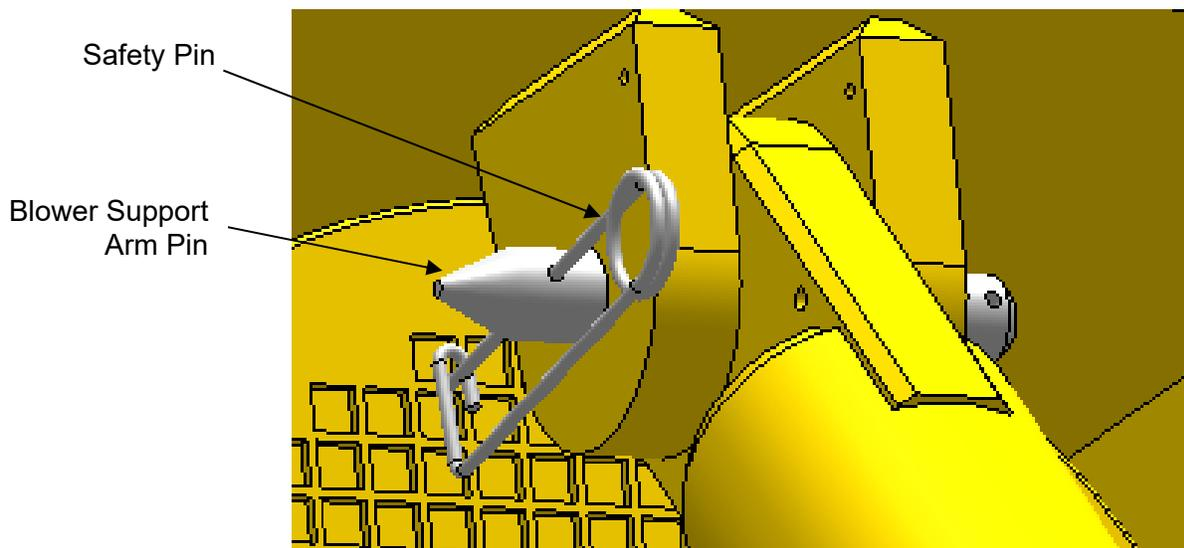

Figure: 4.9 Installing the safety pin
3. Install the safety pin through the hole in the blower support arm pin for retention as shown in Figure 4.9.